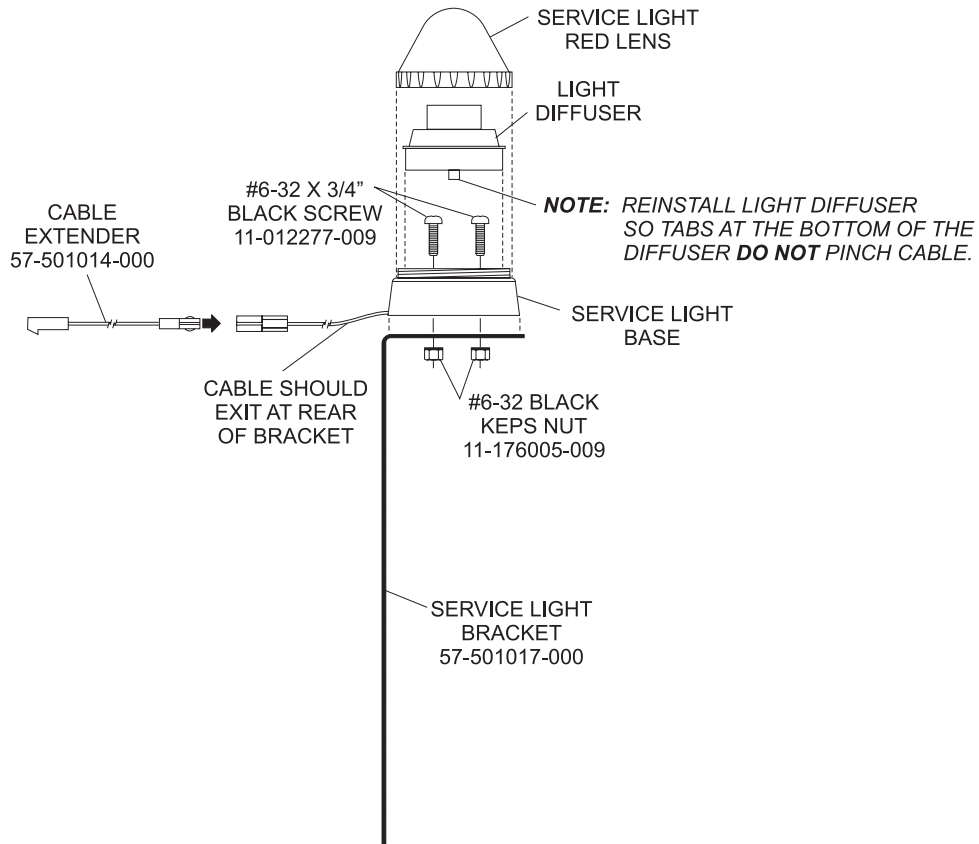

Figure 2
4. Install the service light base to the top of the service light bracket using the two #6-32 x 3/4" black screws and #6-32 black keps nuts provided. Install the service light base with the cable exiting at the rear of the bracket. Refer to Figure 2.
5. Connect the cable extender to the service light. Refer to Figure 2.
6. Replace the clear light diffuser. Refer to Figure 2.
7. Screw the red lens onto the base of the service light. Refer to Figure 2.